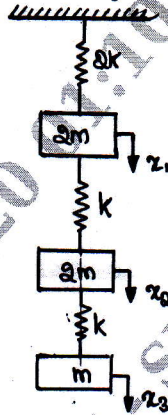

Fig.Q9
- 9 Determine the natural frequencies and mode shape of the system shown in Fig.Q9.